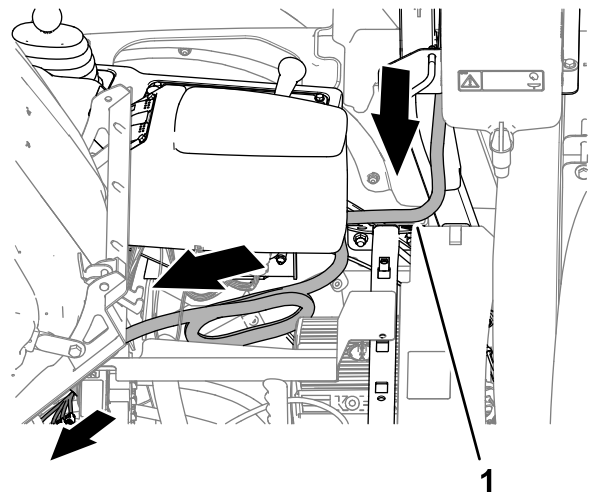

Figure 56
2. Route the modem-antenna harness under the arm rest as shown in Figure 56.